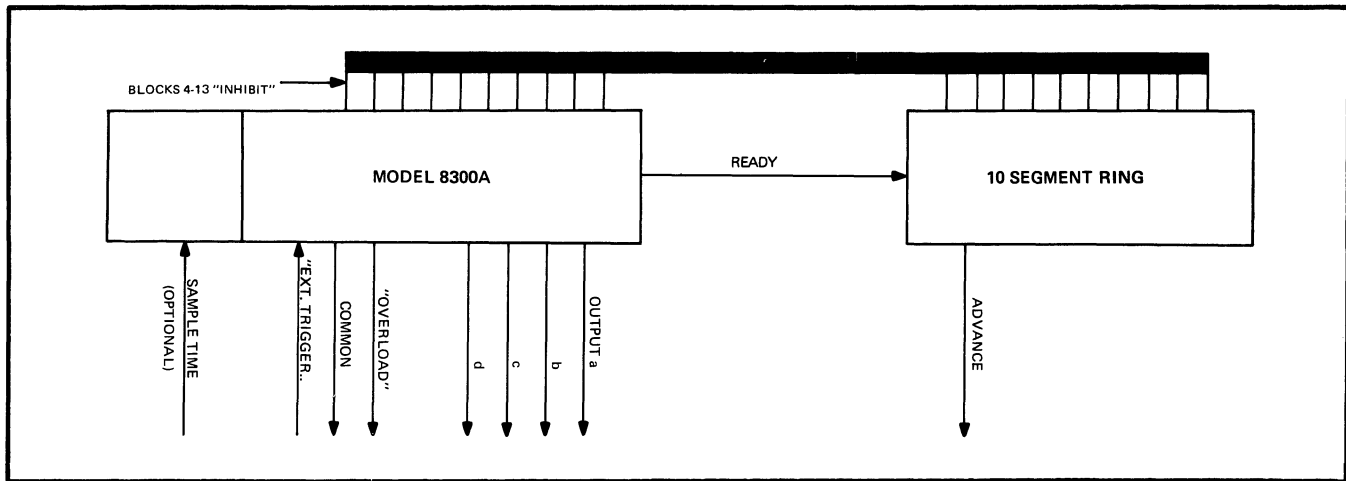

Figure 2-14. MINIMUM LINES ACQUISITION
- a. Place a customer fabricated ten-segment ring counter near the Model 8300A and interface with lines as shown in Figure 2-14.